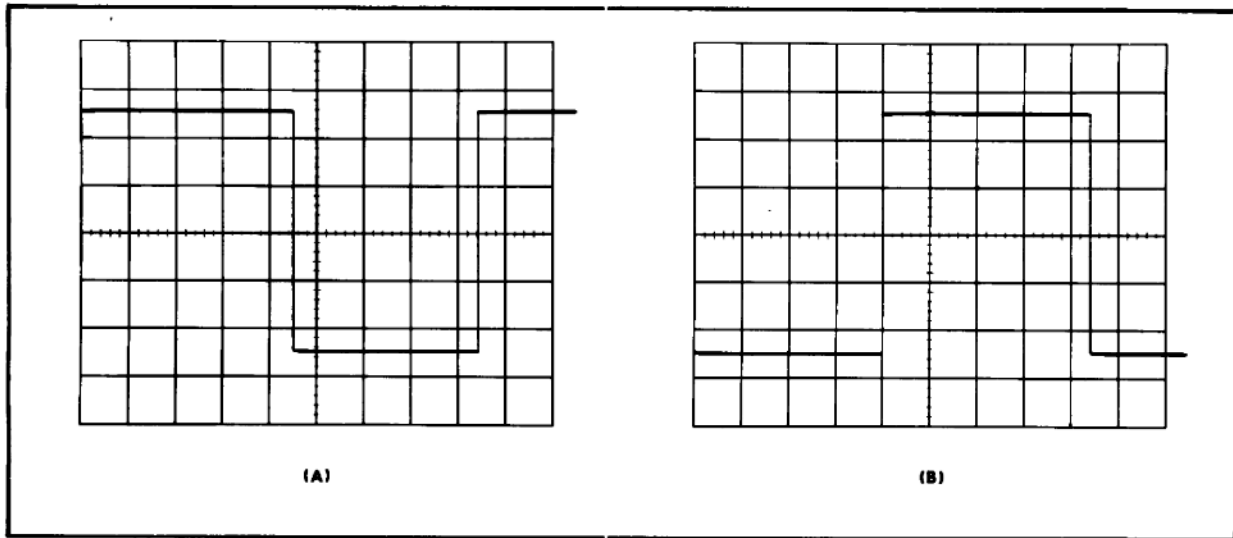

Fig. 5-1. Typical CRT display when checking trigger slope operation. (A) + slope; (B) — slope.
- d. CHECK—CRT display starts on the positive slope of the signal (see Fig. 5-1) and the + slope light is on.
- f. CHECK—CRT display starts on the negative slope of the signal (see Fig. 5-1) and the — slope light is on.